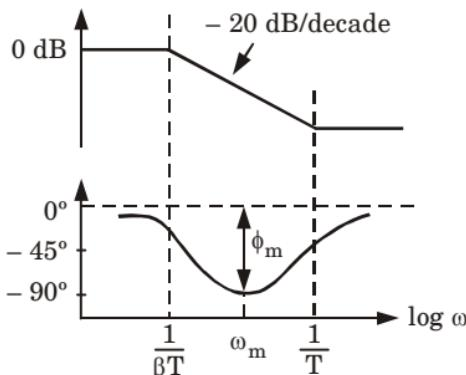

Fig. 21. Bode plot of lag compensator.
The transfer function of phase-lag network is shown in Fig. 21,
3. Bode plot for transfer function of eq. (2) is shown in Fig. 21.